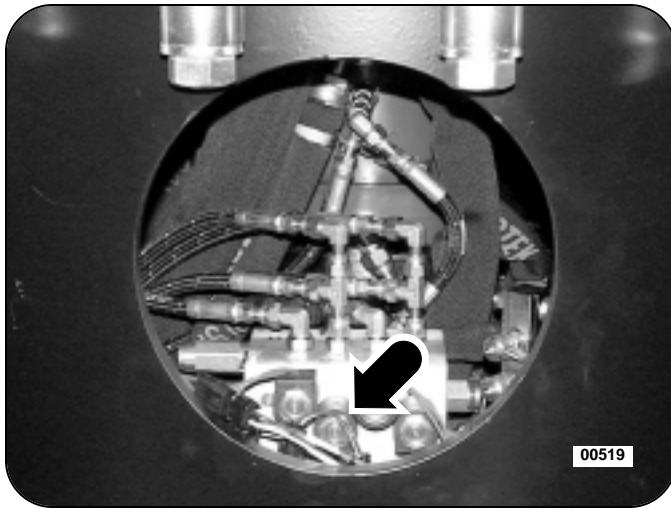

Figure 23: Lower Solenoid Manifold
3. Locate and disconnect the parking brake solenoid coil harness (yellow wire) at the lower solenoid manifold located in the right side of the upper turntable riser. See Figure 23. This will prevent the parking brake from releasing.